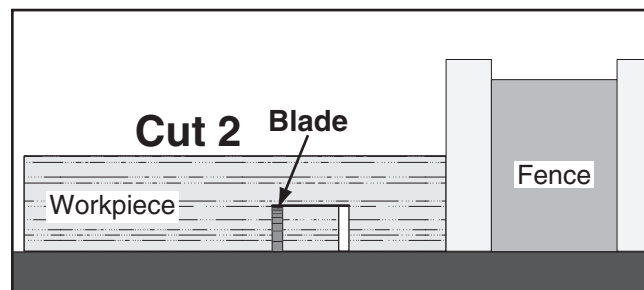

Figure 80. Second cut for a single blade dado.
8. Repeat the cutting operation on the other side of the dado channel, as shown in **Figure 80**.